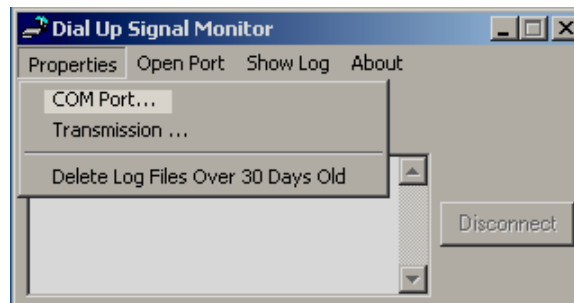

Figure 16. Properties – COM Port Screen
- (b) Select COM Port (see Figure 16).